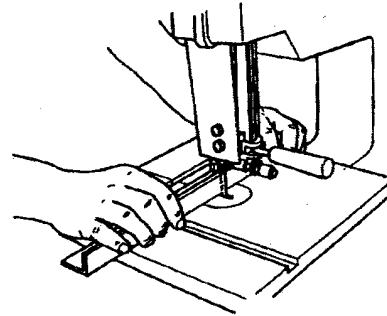

Fig.20
- Do not "force feed" non-wood material (especially metal shown in Fig.20) into the blade. The workpiece could bind and break the blade, causing a hazardous situation. Force feeding non-wood material also causes premature failure of other bandsaw parts.